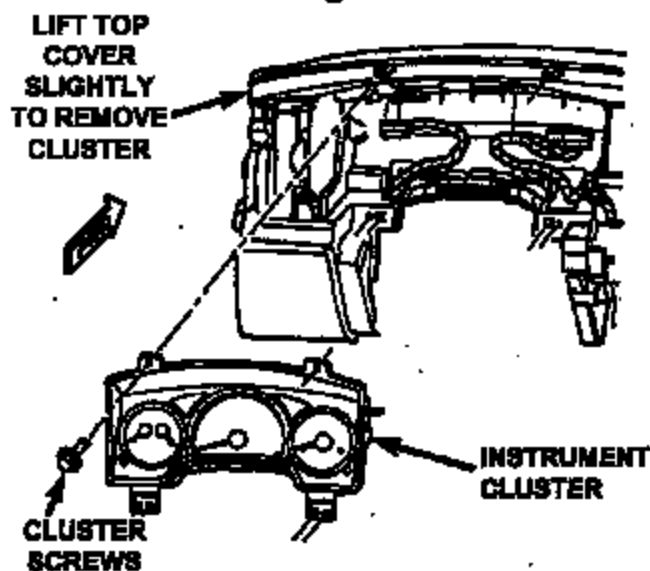

Figure 4
10. Remove the four (4) instrument cluster screws (Figure 4).
24. Install the cluster into the instrument panel and then install the four (4) instrument cluster screws (Figure 4).